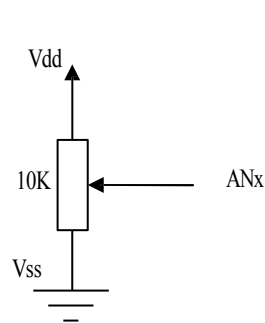

Figure 1: Variable voltage level for the analog input
Plagiarism will not be tolerated. Copying material from the web or from data sheets without giving credit is plagiarism. Figures may be borrowed from data sheets or application notes, provided that credit for each figure is clearly given in the report (e.g. "Fig.1 from ABC Company datasheet XYZ"). Borrowing a sentence or paragraph is reasonable (as long as credit is given), but do not borrow pages of material and include that in the body of your report. Students are expected to understand plagiarism and how to properly cite the work of others. Refer to <http://en.wikipedia.org/wiki/Plagiarism>.
- * You can create this voltage using a variable resistor of 10KOhm and connected to Vdd and Gnd (**Figure 1**).